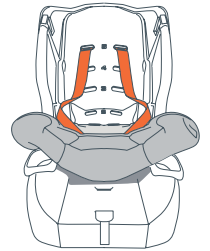

Fig. 32a
3. Loosen harness by pressing the center adjuster and pulling on harness. Pull top of seat fabric down to expose the forward facing belt path (Fig. 32a).